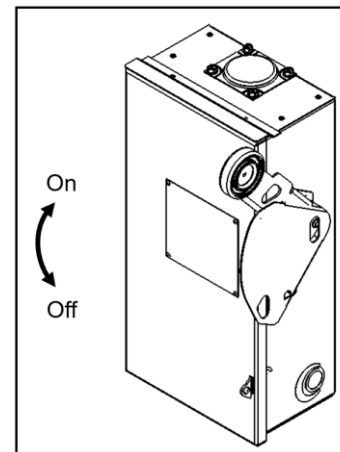

Figure 12-3. Fused Electrical Disconnect.
2. Apply electrical power to the pump station by setting the Fused Electrical Disconnect on the pump station to ON. The handle must be in the up position. See Figure 12-3.
10. After approximately 15 seconds, turn the power to the pump station ON, by setting the handle on the Fused Electrical Disconnect in the up position. See Figure 12-3.